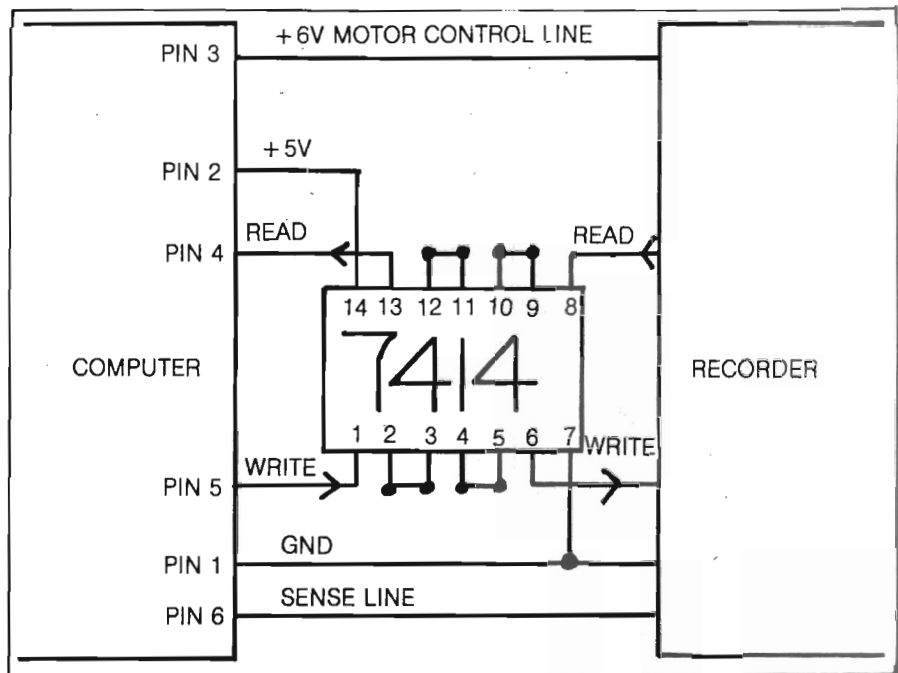
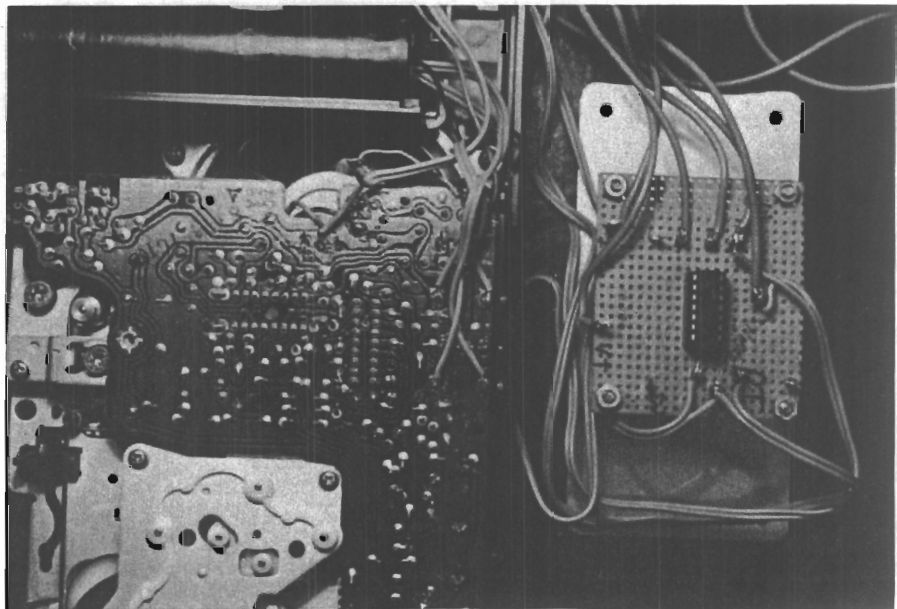
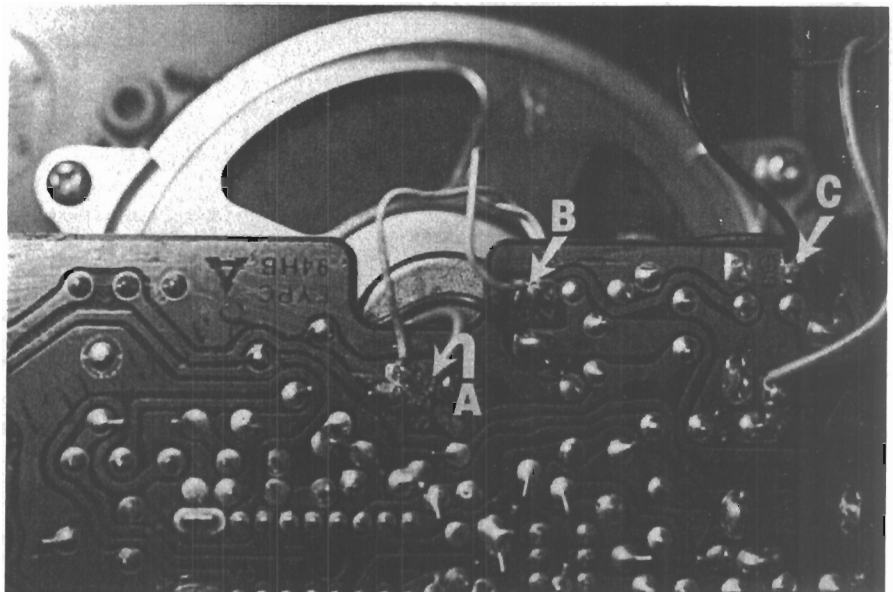

Figure 1: Schematic representation of the interface connections.
Figure 2: Back side of the unmodified cassette recorder and the PERF board containing the 7414 IC.
Figure 3: Blown-up view of the unmodified cassette PC board with key points identified.
Interfacing the recorder to the PET is relatively simple. First, remove the screws that hold the cassette case together. Carefully separate the halves of the case, but be aware that there are short wires connecting the printed circuit (PC) board to the speaker and battery pack. Figure 1 contains the schematic representation of the interface. Figure 2 shows the rear electronic on the PC board of the recorder and the 7414 chip. Figures 3 and 4 contain the pre- and post-wiring changes to the PC board and will be described in detail.
The following discussion refers to figure 3. On the unmodified PC board point A is the +6 volt connecting area for both the motor and the SENSE
Point 3 of the computer. Points C and D are the READ/WRITE lines and are wired to the 7414 Hex-schmitt trigger inverters as drawn in figure 1. I disconnected the speaker wires which are located on the under-side of the PC board.